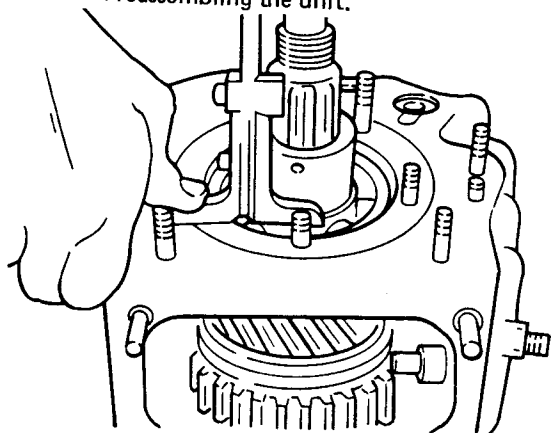

Fig H1.54
- (1) Refer to Fig H1.54. Measure the depth of the bearing outer track relative to the plane of the casing, taking into account that the gasket must be fitted.